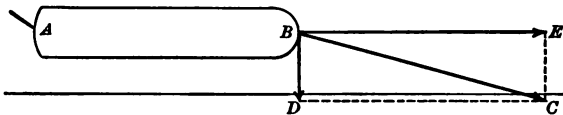

FIG. 119. — Useful component of force on canal boat.
Thus in figure 119 we have a canal boat AB which is being towed by the rope BC . We may resolve the force along the rope BC into two components, one of which, BE , is
7. In figure 119 the canal boat is 10 feet from the shore, and a pull of 200 pounds is exerted on the 50-foot towline. What is the effective component?